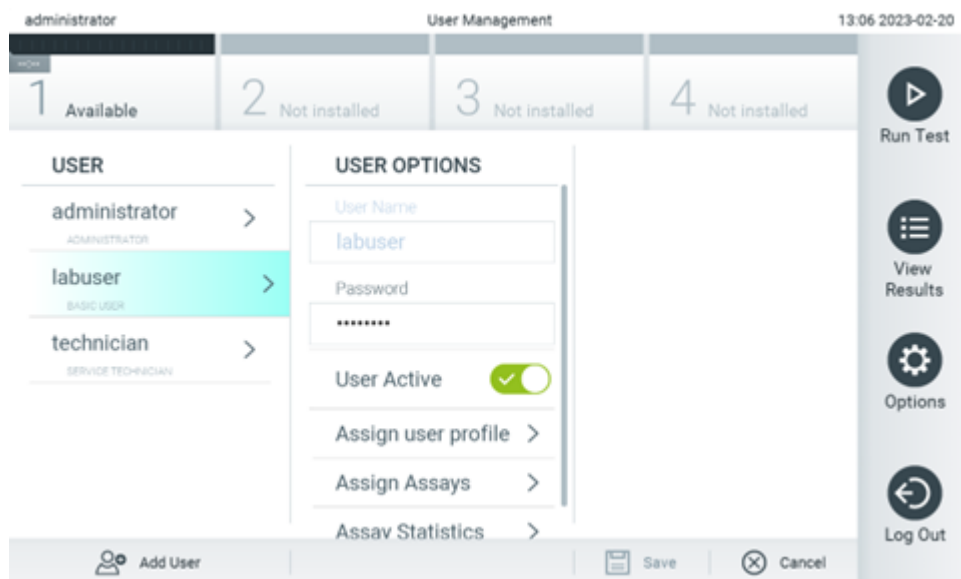

Figure 51. Selecting and managing users.
2. Select the user to manage from the list in the left column of the content area (Figure 51).